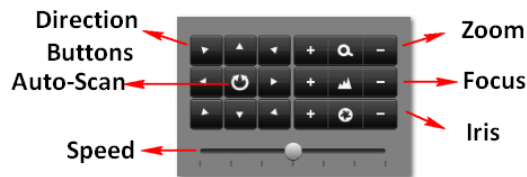

Figure 114 PTZ Controls Button
4. Using the Directional buttons and other PTZ control buttons (Zoom +/-, Focus +/-, the speed of the PTZ movement), test the functionality of the PTZ camera. If PTZ camera and protocol supports it, you may also click the Auto-Scan button to test its function. PTZ controls buttons are shown in Figure 114.